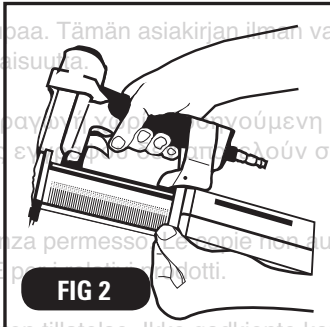

FIG 2
2. With magazine fully open, insert fasteners. Points must be against bottom of magazine. (Fig 2)